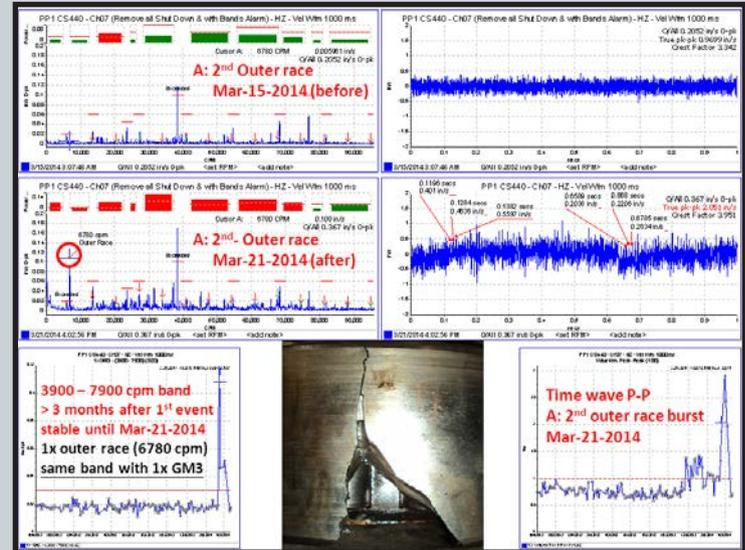

Figure 6
- For the 2nd event (bearing A outer race), 3900 – 7900 cpm band is assigned for 1x GM1 (5900 cpm), however, the outer race burst (6780 cpm) falls into the same zone. In Table 2 (bottom and black filled), all even 6780 cpm families (2x, 4x, 6x, 8x, 10x, 12x and 14x) are urgently next to each GM2 harmonic, which make the Figure 6 spectrum quite noisy.